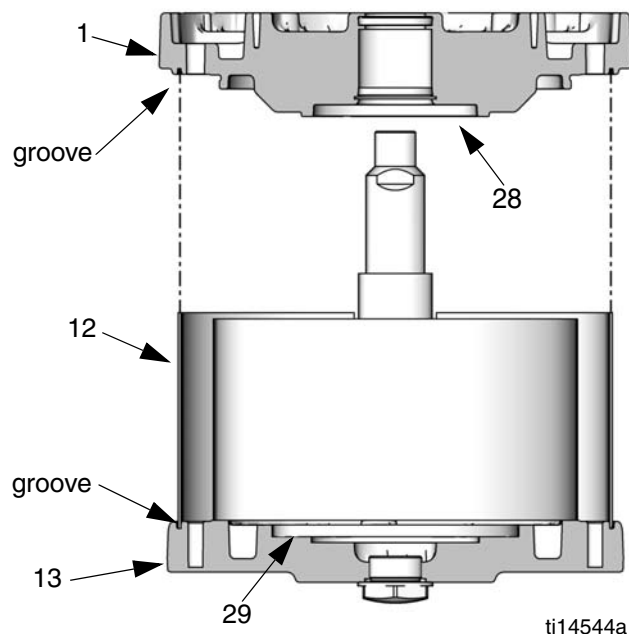

FIG. 12: Align shield in grooves on covers
8. Lubricate and install the o-ring (9*) on the bottom cover (1).
9. **M07xxx, M12xxx, and M18xxx only:** Install the piston bumper (28) on the bottom cover (1).
10. See FIG. 12. Carefully place the bottom cover (1) on the cylinder (11), sliding the rod through the bearing. The manifold surfaces of the top and bottom covers must align. Be sure the shield (12) is in the groove on both the top and bottom covers.